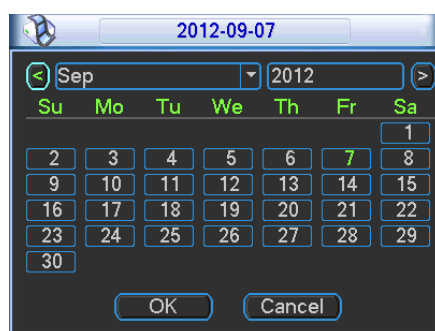

Figure 3-31
- Record types: There are four types: regular, motion detection (MD), Alarm, MD & alarm.
- Holiday setting: Click it you can see an interface shown as in Figure 3-31. Here you can set holiday date. Check the box, it means current channel shall record as your holiday setup. Please go to the Period interface to set the holiday date record setup.